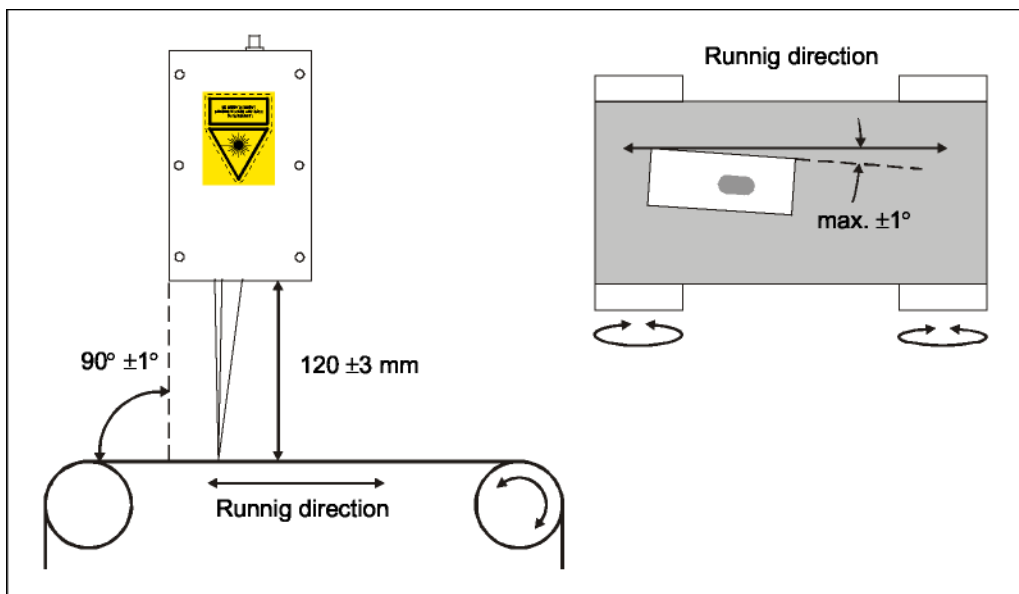

Figure 1: Mounting tolerances and alignment of μ SPEED-smartsensor
1. The alignment of the measuring unit has to be perpendicular to the measured object. It should be mounted at an angle of 90 degree and at a distance of 120mm (+/- 3mm) or 240 mm (+/- 10mm) from the measured object (see Figure 1). The rules and regulations of laser protection must be followed (see chapter 3).